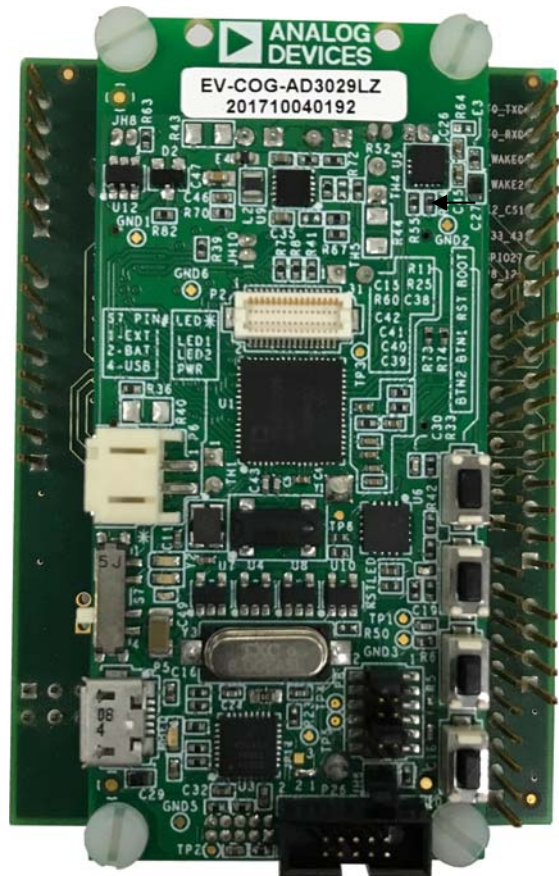

Figure 7. EV-COG-AD3029LZ with EV-GEAR-EXPANDER1Z Top View
- Connect the GPIO28 pin of the **EV-GEAR-EXPANDER1Z** to GND (see Figure 7).